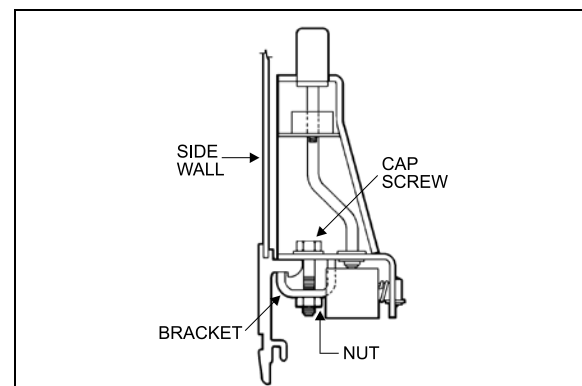

FIGURE 83: ARMREST
4. Remove 2 cap screws, nuts, and washers holding seat frame to side wall and retain the 2 holding brackets. See Figure 83.